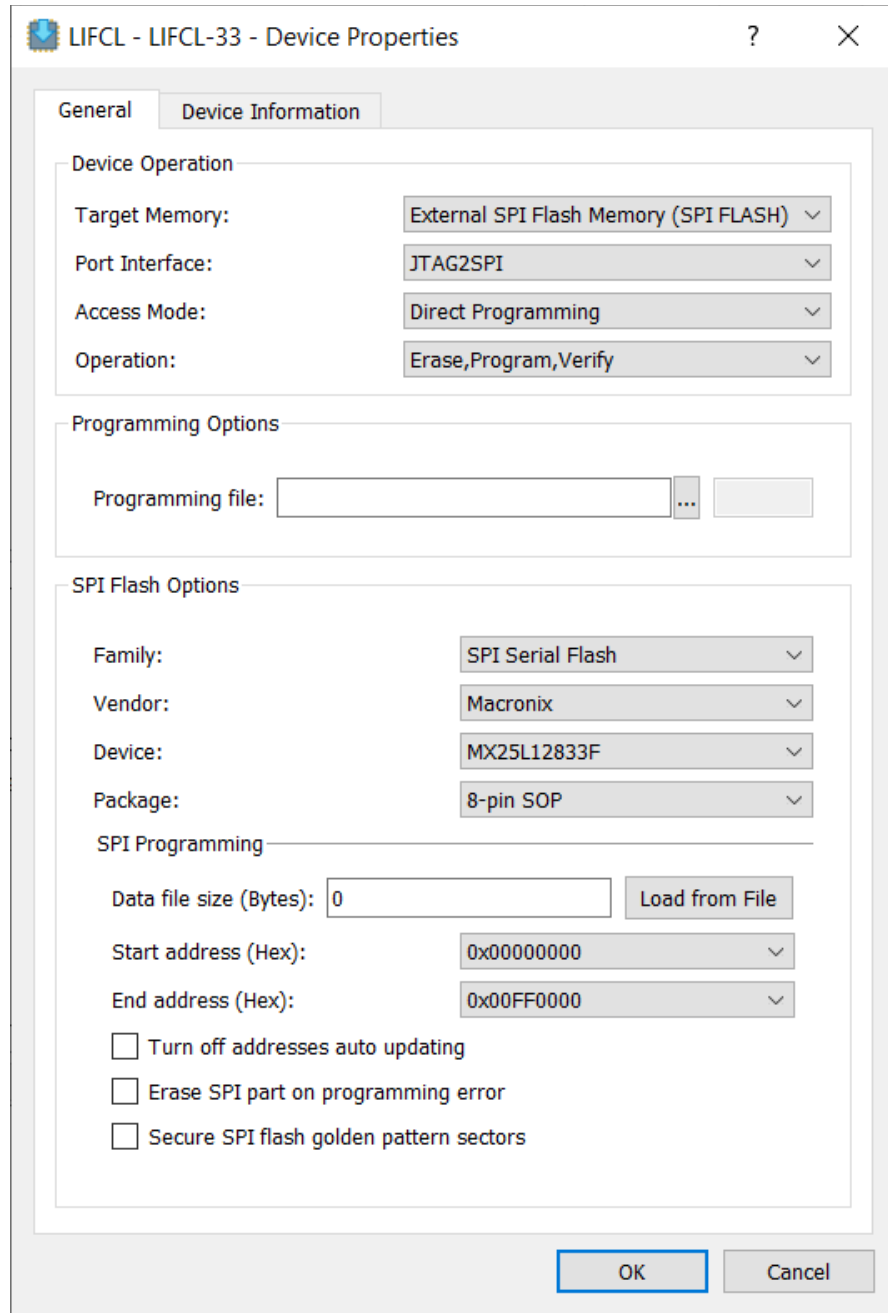

Figure 2.5. Radiant Programmer Device Properties Window – CrossLink-NX-33 VVML Board Configuration
7. Set **Target Memory** to **External SPI Flash Memory (SPI FLASH)**. Set all other options as shown in Figure 2.5.